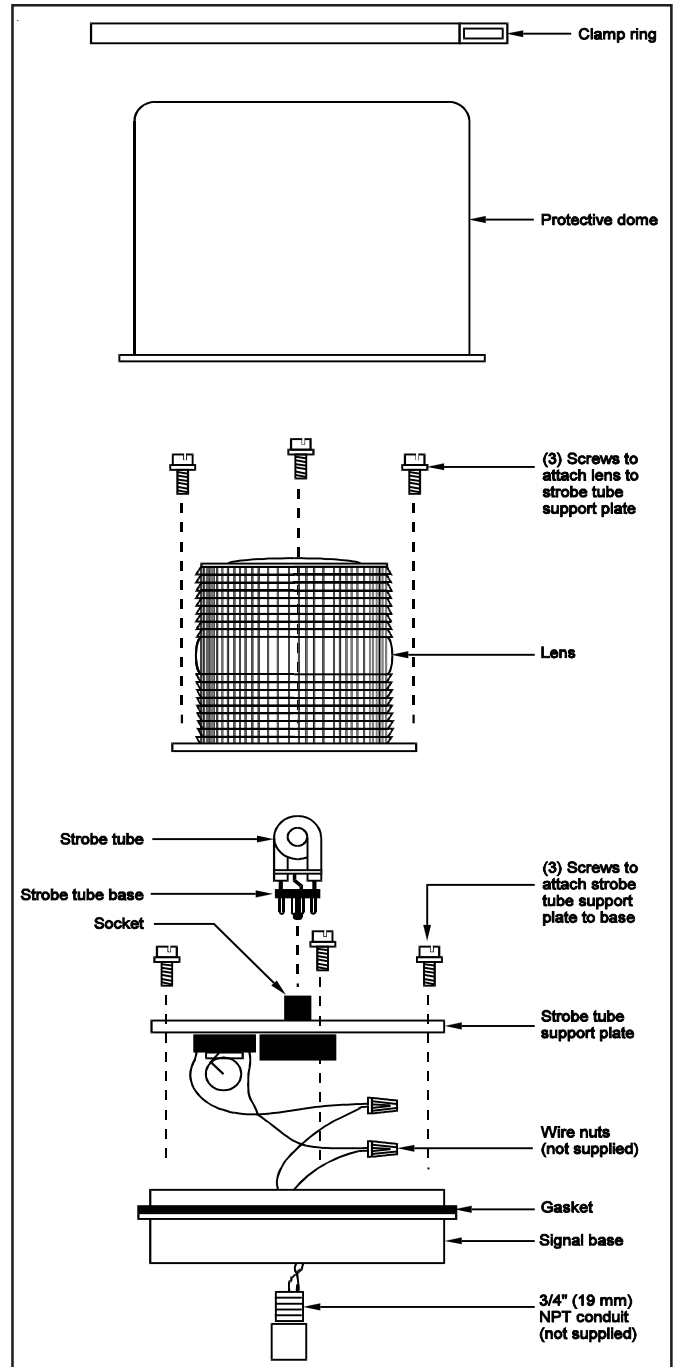

Figure 2. Conduit Mounting of 94DDV2(*)-G1 Signals
- (Figure 2) Release the latch on the clamp ring and remove the ring holding the protective dome to the signal base. Lift the dome straight up off of the signal base. Loosen the three screws in the keyhole slots located in the base of the lens. Turn the lens clockwise and lift it off of the strobe tube support plate. Remove the three screws holding the strobe tube support plate to the signal base; grasp the socket on the strobe tube support plate. Do not touch the glass tube. Carefully lift the support plate off of the signal base.
- Route the field wiring from the power source through the conduit and through the conduit entrance hole in the signal base (Figure 2).
- Install the signal base on the conduit (Figure 2).
1. (Figure 2) Disconnect the power and wait five minutes for stored energy to dissipate. Lift the dome off of the signal base. Loosen the three screws in the keyhole slots in the base of the lens. Turn the lens clockwise and lift it straight up and off the strobe tube support plate. Remove the three screws holding the strobe tube support plate to the signal base. Carefully lift the support plate off of the signal base.